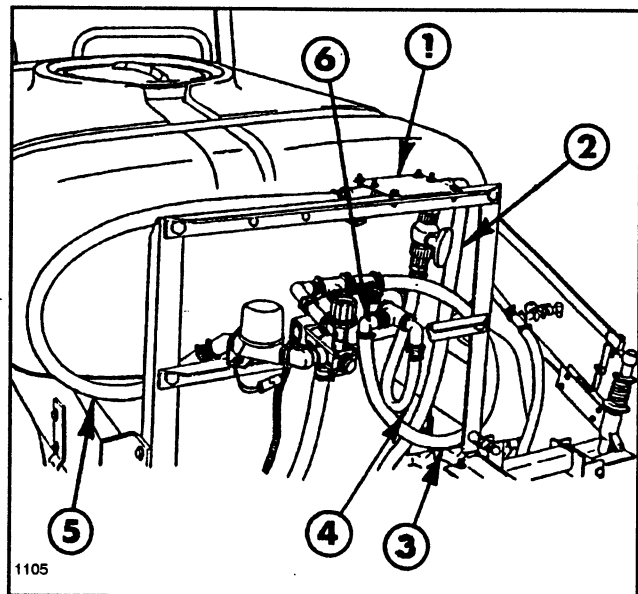

FIG. 16
15. Apply sealer and install the 1" 90 degree hose barb in the rear tank tee (FIG. 16).
10. Apply sealer and install the 1" x 1" hose barb into the L.H. end of the tee assembly and a 1" x 3/4" hose barb into the ball valve at the tee assembly. See FIG. 16.
11. Mount the tee assembly and bracket to the upper cross support with (2) 5/16" x 1" hex hd cap screws, flat washers, lockwashers, and nuts (FIG. 16).
12. Install a 1" quick coupler on the end of the 1" x 100" supply hose and secure with a hose clamp. Connect the supply hose to the discharge port on the pump with the quick coupler. Route the hose along the left side of the vehicle under the tank, and connect to the hose barb on the right side of the tee assembly and secure with a hose clamp (FIG. 16). Secure hose at cable mounting bracket and rear cross member with tie straps.
14. Connect the 1" x 42" supply hose to the 1" hose barb on the tee assembly and 1" hose barb in the control valve. Secure with hose clamps (FIG. 16).
15. Connect the 3/4" x 28" agitator hose to the 3/4" hose barb in the ball valve and connect to the hose barb on the rear of the tank. Secure the hose with hose clamps (FIG. 16).
16. Connect the 1" x 42" overflow hose to the 1" hose barb in the end of the electric solenoid assembly and connect to the 90 degree hose barb on the left side of the rear tank tee. Secure with hose clamps (FIG.16).